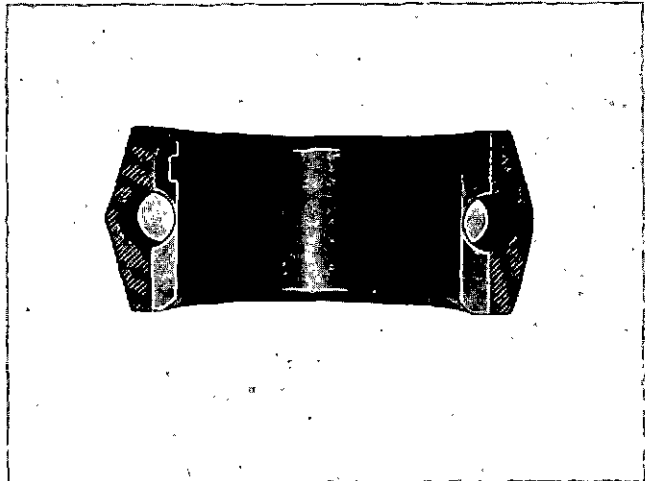

Fig. 1-8-5, N10188. Area of flatness
a. Use surface plate and lapping compound to lap rod and cap mating surfaces. After grinding and lapping, "blue" surfaces; seating or flatness pattern must show a minimum 75% contact. Still-blued area must not be in area outside bolt centerline (area farthest from bore centerline); this area should indicate 100% seating. See Fig. 1-8-5.